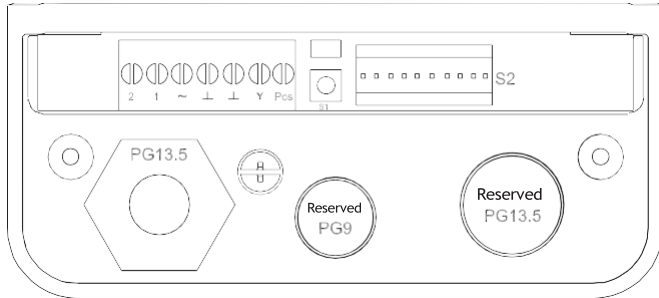

Fig. 1 PCB Layout
**Manual self-adaption:** Press and hold button S1 on PCB for more than 5s (See Fig. 1) until the indicator starts blinking (1Hz) to enter into self-adaption mode. The actuator will be automatically full off (traveling to the bottom) and then full on (traveling to the top). When the indicator stops blinking, it means that the process is completed. Afterwards, the actuator will travel to the designated position of control signal.